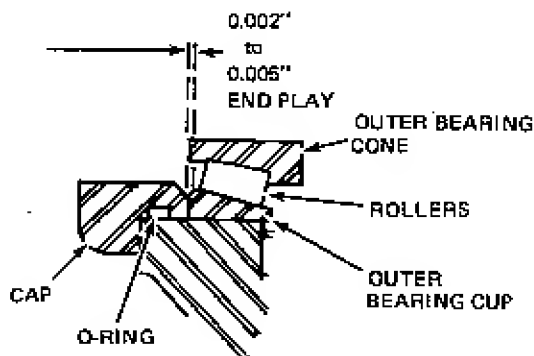

Figure 10. Final Gear Assembly Cap End Play
- g. The cap should now be flush against outer bearing cup. It is necessary, however, to have 0.002 to 0.005 inch end-play between the cap and the outer bearing cup. Refer to Figure 10 for dimension required.